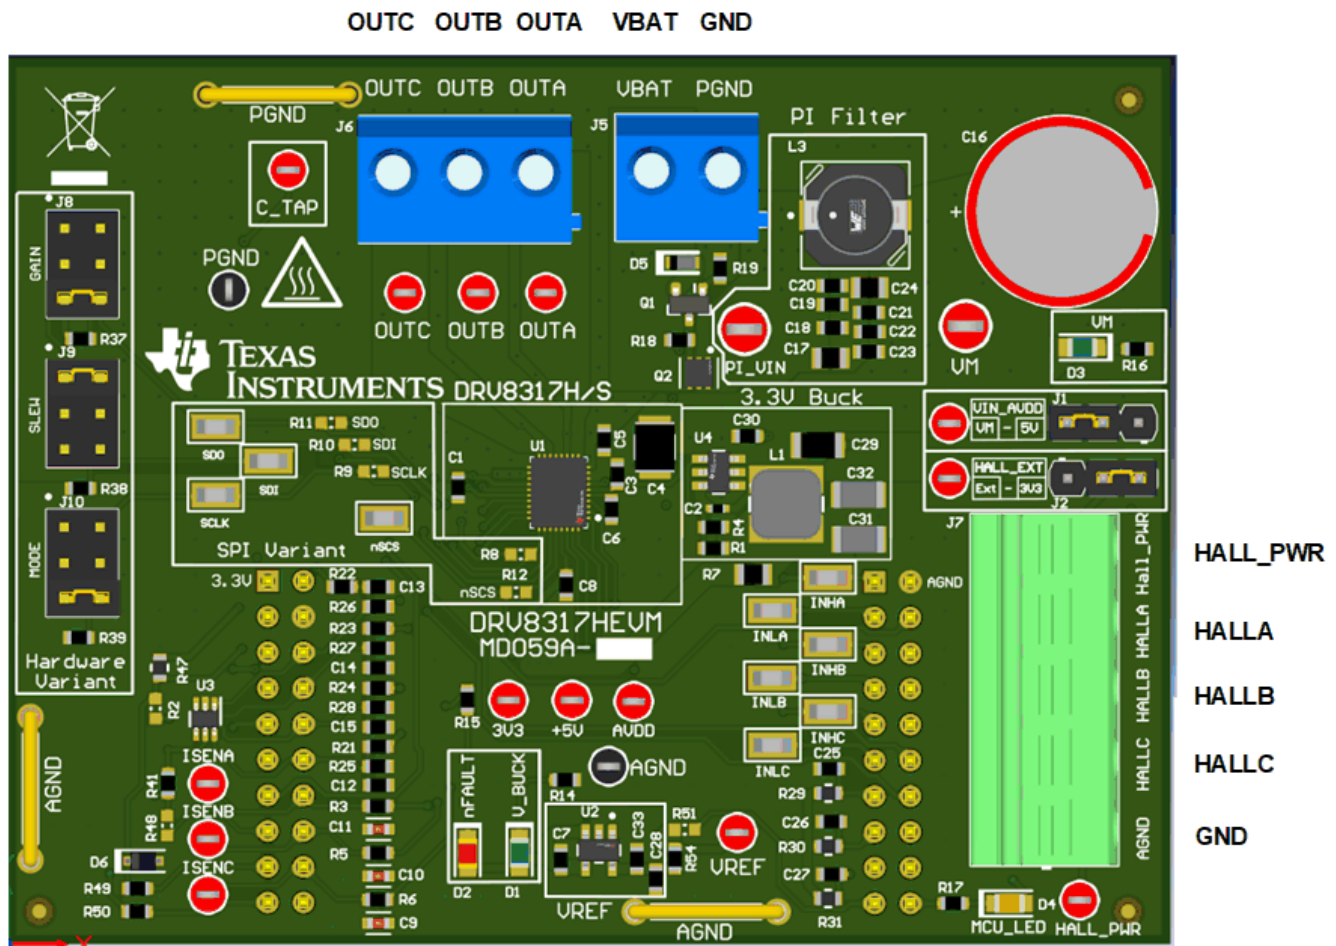

Figure 4-2. Connections from motor to DRV8317HEVM
2. Connect the motor phases to OUTA, OUTB, and OUTC in the correct order. For sensed applications, connect the Hall sensors to the appropriate locations on the 5-pin connector J7 as shown in Figure 4-2. Select 3V3 or Ext on jumper J2 to choose the Hall power source voltage to be either from the 3.3 V on the board or from an external supply.
Figure 4-2 shows the power supply and motor connections made to the DRV8317HEVM in order to spin a 3-phase sensed or sensorless Brushless-DC motor.